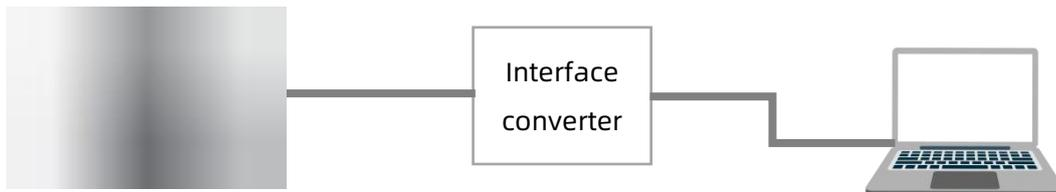

Figure 17 SPL100/180-Pro connecting to PC
- Connect SPL100/180-Pro to the PC or laptop with a **paired USB converter** cable as shown in *Figure 17 SPL100/180-Pro connecting to PC*. The UART version SPL100/180-Pro needs a UART-USB converter, and the CAN version SPL100/180-Pro needs a CAN-USB converter.